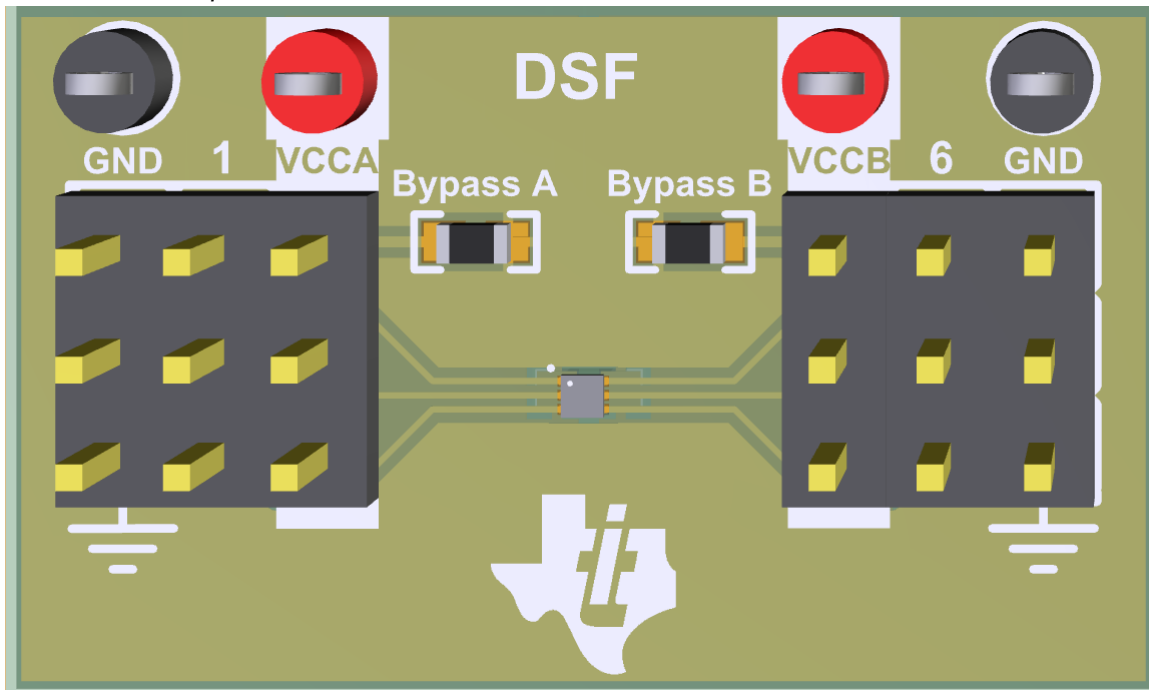

Figure 2-4. Fully Populated Section
- Interface with device pins. The kit includes twelve 4-pin headers and four supply test points. The headers can be cut to accommodate the 5-pin and 6-pin footprints. An example of this, with the addition of bypass capacitors for the supplies, can be seen in Figure 2-4. *Note: The DPW section has the middle pad grounded to accommodate the pin-3 GND of DPW devices.*